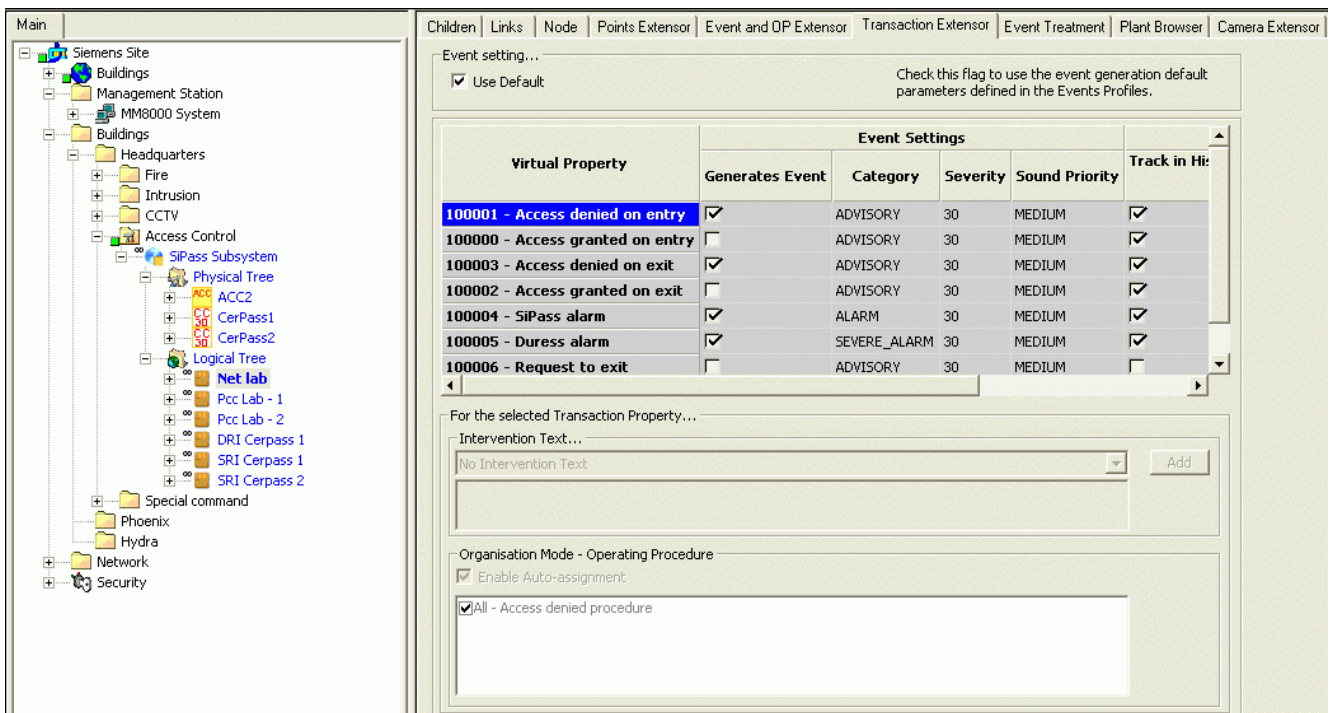

Fig 13 Customising individual SiPass log options
- In the **Transaction Extensor** tab of each individual point and transaction, customise the log options (e.g.: enabling/disabling properties as in Fig 13).